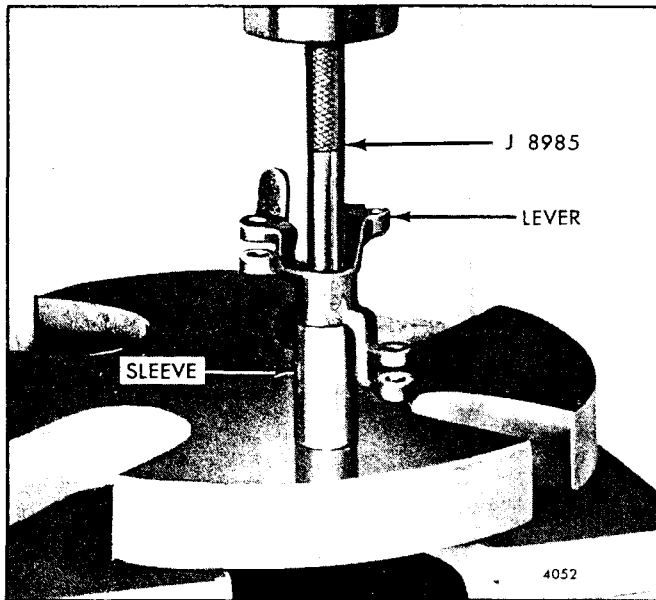

Fig. 8 - Removing or Installing Control Link Lever Bearings
3. If the bearings require replacement, support the control link lever on a sleeve placed on the bed of an arbor press. Then press the bearings out of the lever with tool J 8985 (Fig. 8).